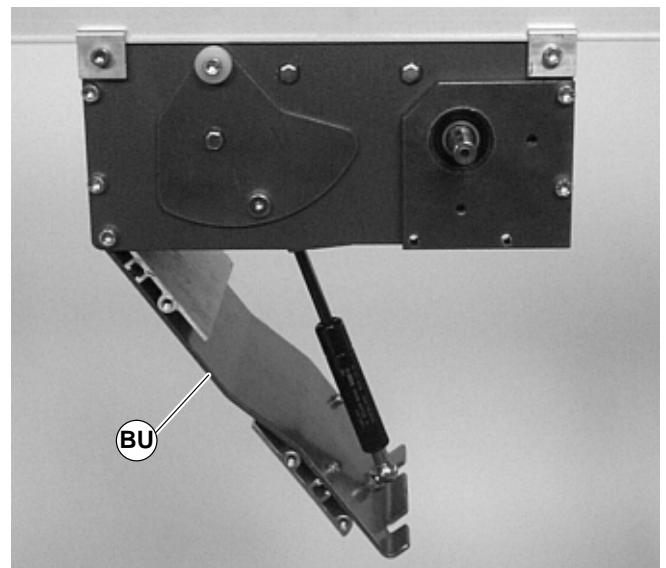

Figure 31
11. Carefully close the tension door (BU of Figure 31).